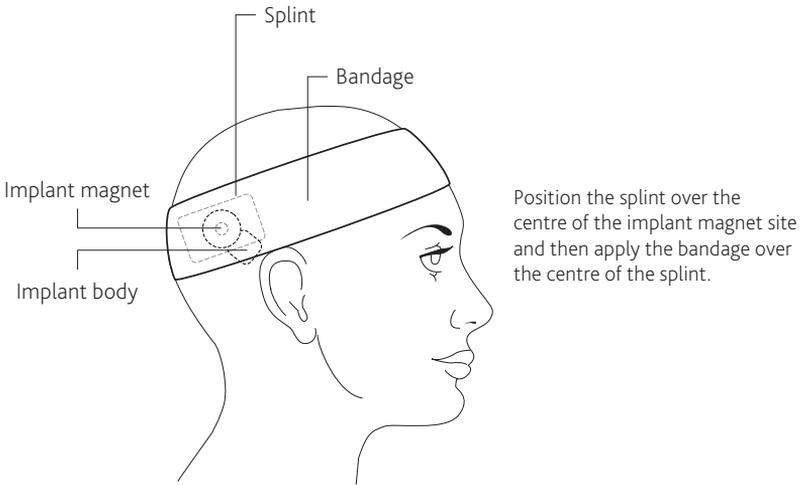

Figure 6: Fitting the MRI Kit splint and compression bandage
2. Use the elasticised compression bandage from the MRI Kit and ensure the centre line of the bandage is over the implant magnet site and the splint is fully covered. See **Figure 6** below.